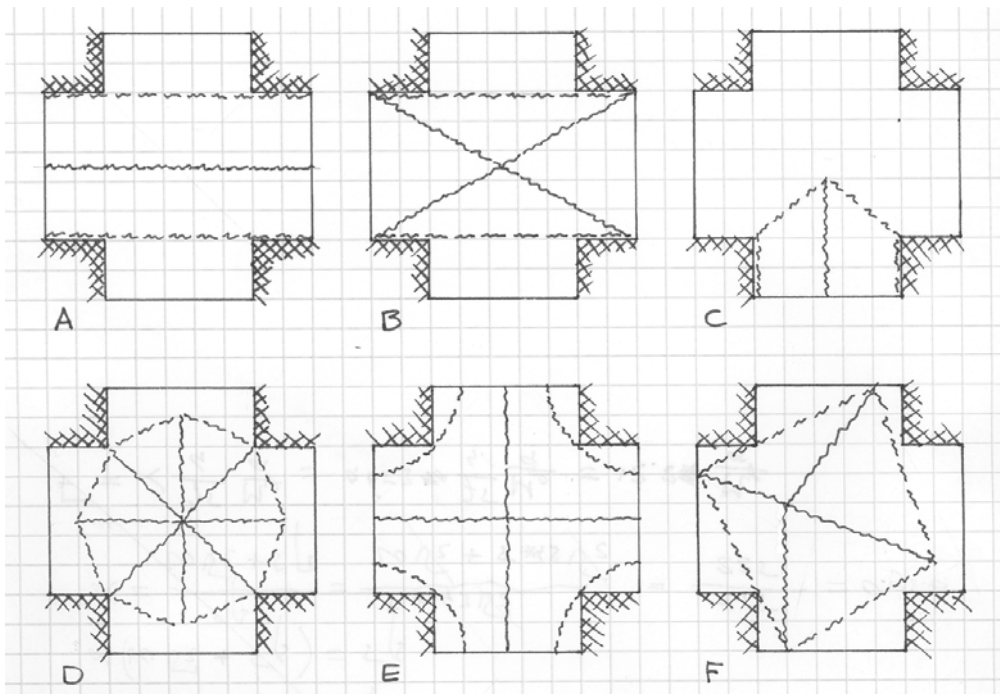

Figure 5. Yield line patterns of problem 2a
- a We consider the yield line patterns of Figure 5. Which of these patterns give kinematically possible mechanisms. (1 point)